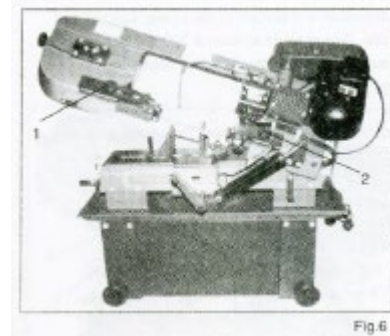

Fig. 5
1. Loosen the locking bolt (1 – fig. 5)
2. Release the slide bolt (2) until the pulley can be loosened.